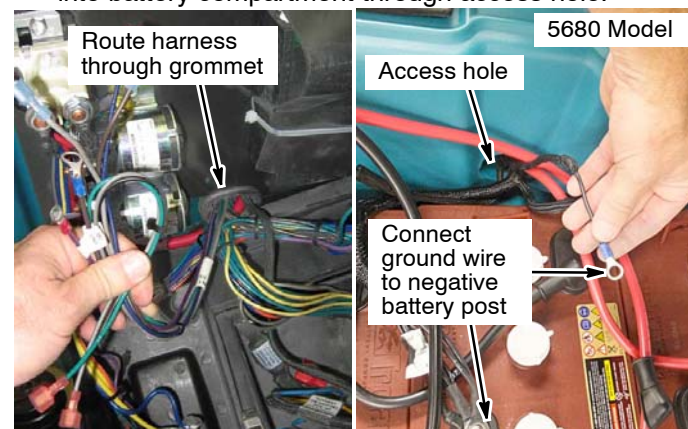

Fig. 5
3. Continue routing the ec-H2O harness up into the control console through grommet as shown (Figure 5). If installing 5680 ec-H2O kit, route the ground wire into battery compartment through access hole.